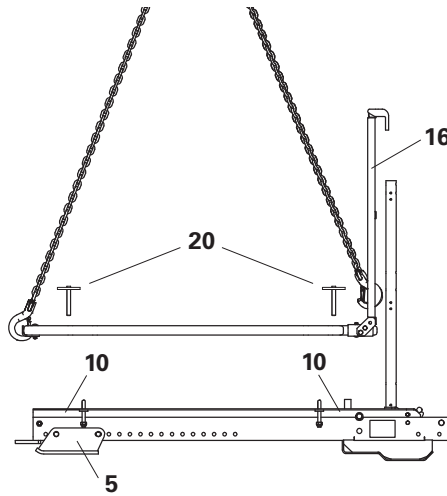

Fig. A3.03
1. Fold out the Intermediate Platform Handrail Frame (16) and connect the three chains of the lifting gear as for the intermediate platform.
3. Bolt the intermediate platform in the Universal Couplers (10) of the Folding Platform Brackets by means of 2 Screw Plates DW 15/115 (20). (Fig. A3.03)